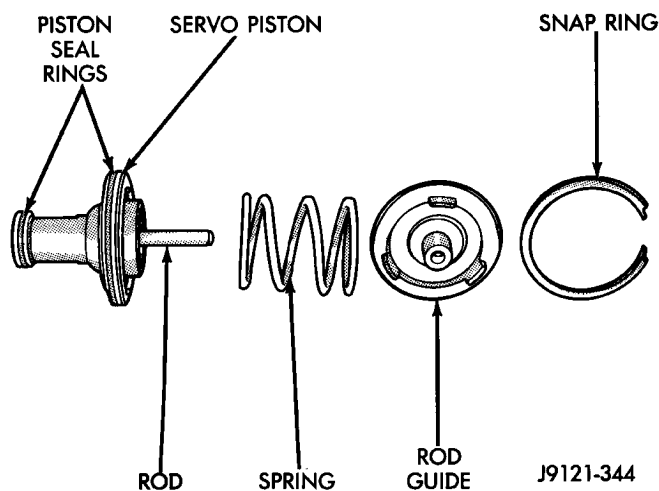

Fig. 108 Front Servo Components
(2) Install front servo piston assembly, servo spring and rod guide (Fig. 108).